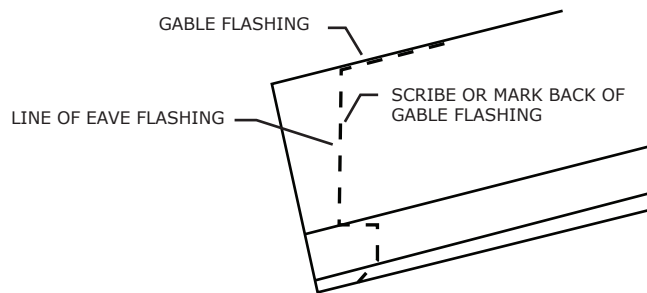

FIGURE 5
22.0 Next, install gable end (gable flashing) as in figure 5